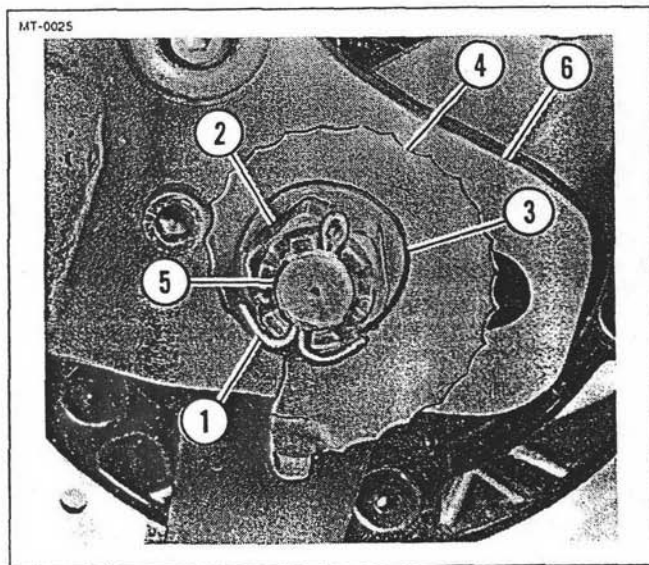

Figure 5-41. Rear Axle Cotter Pin
- See Figure 5-41. Using *long-nose pliers*, remove and discard cotter pin (1).
2. See Figure 5-41. Using a 24 mm box wrench, remove axle nut (2), flat washer (3), and left chain tension adjustment cam (4).
3. Using a *soft-headed mallet*, drive axle (5) toward right side of vehicle until end of axle is flush with swing arm (6).
6. See Figure 5-41. Install left chain tension adjustment cam (4), flat washer (3), and spindle nut (2), but do NOT tighten spindle nut at this time.
8. See Figure 5-41. Using a 24 mm socket and a torque wrench, tighten axle nut (2) to 101 N-m (75 ft-lb).